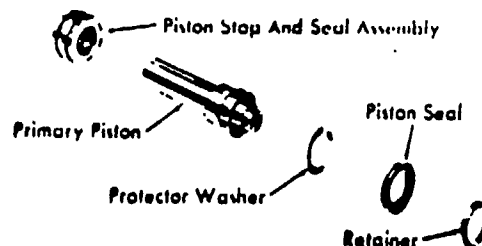

Fig. 34 Bendix Primary Piston Disassembled.
4. Remove primary piston and stop assembly, secondary piston and stop assembly, secondary spring, spring stop, secondary check valve spring, and check valve from the Master Cylinder housing (see fig. 34 and 35).
5. Remove brass piston stop and seal assembly from primary piston (see fig. 34) and discard. Piston stop is serviced as a unit and should not be disassembled.